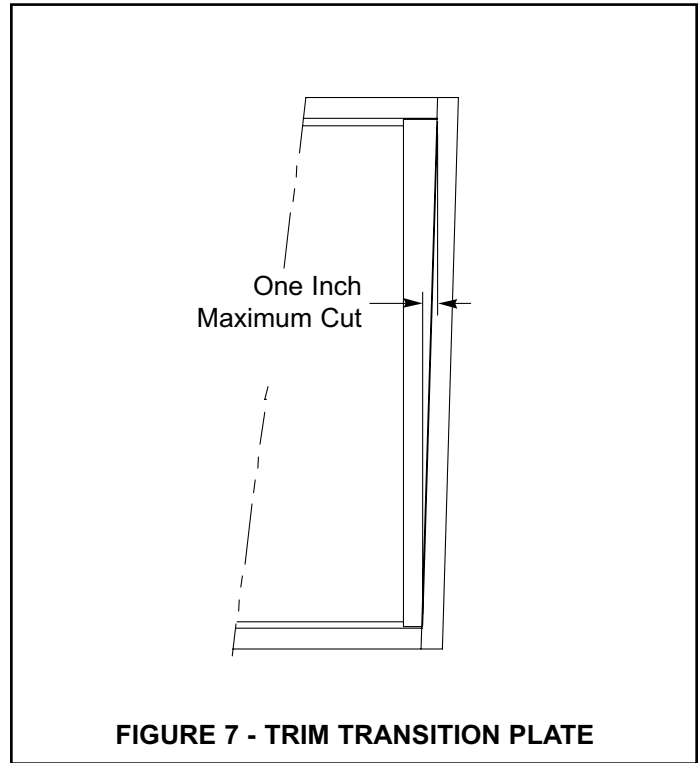

FIGURE 7 - TRIM TRANSITION PLATE
- a. If the leveler cannot be pushed back far enough, the back edge of the rear transition plate can be cut off up to 1 inch. If trimming the back edge of angle does not allow frame to be positioned properly in pit, contact your local representative or RITE-HITE® for assistance. Check the area between the rear transition plate and the back of the pit. If a gap exists, place spacers between the rear transition plate and the rear curb angle. Tack weld spacers to the rear transition plate only. See Figure 7 and 8.